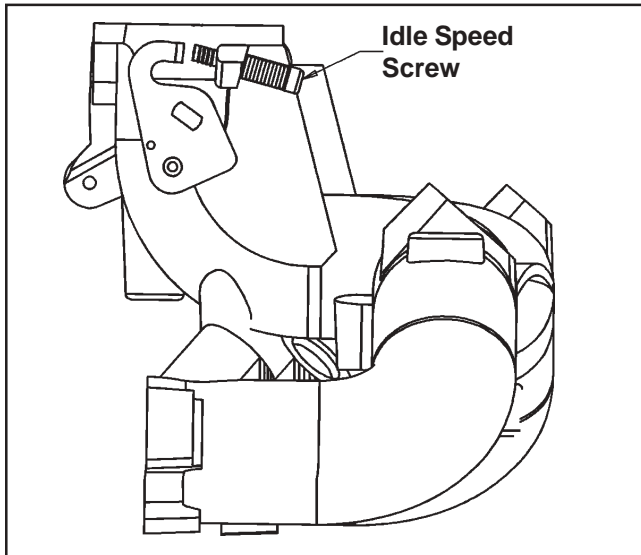

Figure 5B-33. Idle Speed Screw Details.
3. Place the throttle control in the "idle/slow" position and check the idle speed with a tachometer. Turn the idle speed screw in or out as required to obtain **1500 RPM**, or the idle speed specified by the equipment manufacturer. See Figure 5B-33.